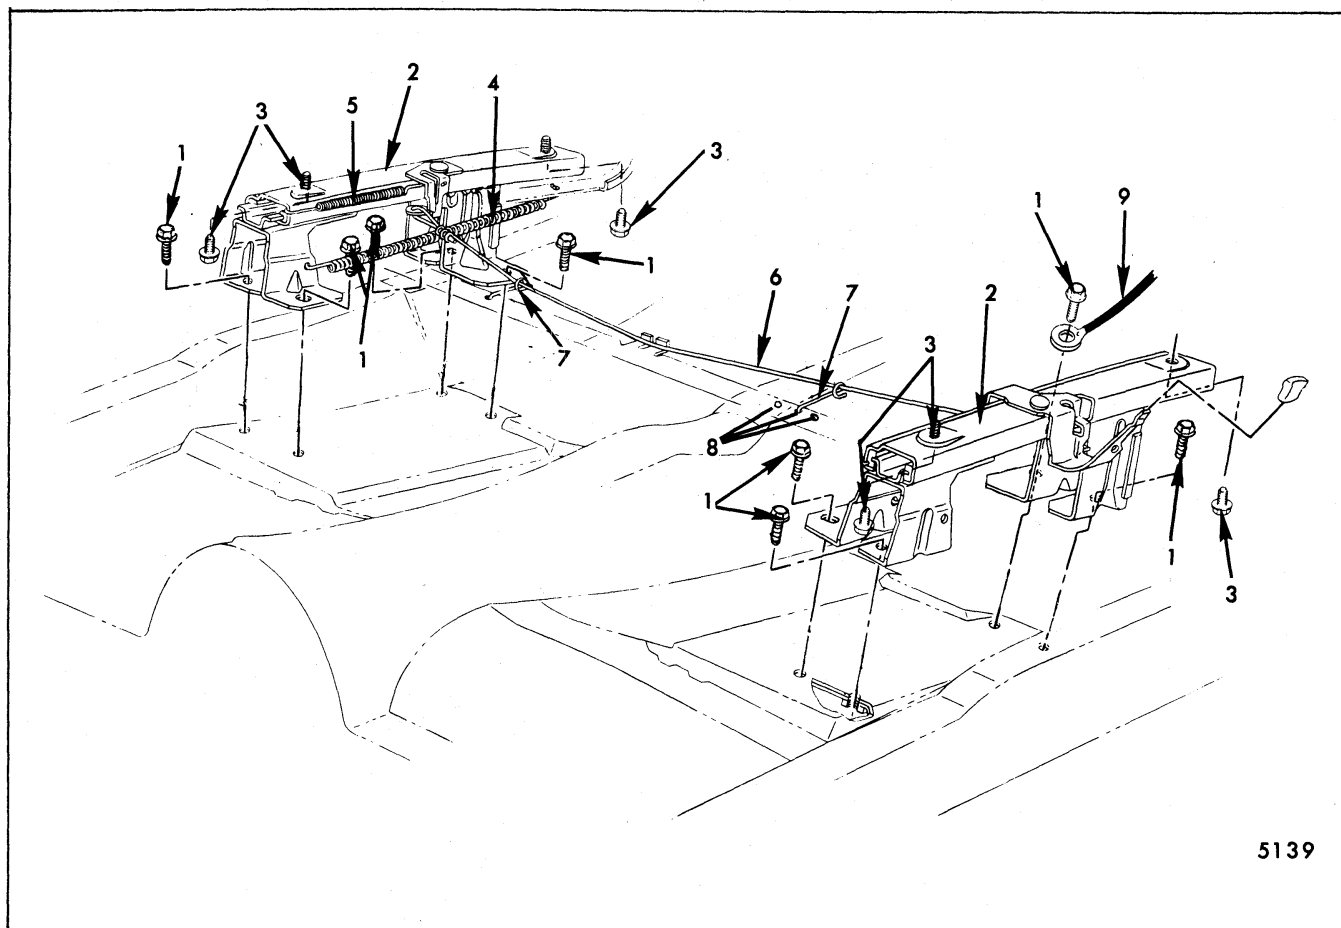

Fig. 9-9-Front Seat Adjusters - "B, C and E" Body Manually Operated Full Width Seats
2. Fig. 9-9-"B, C, E and X" Body Manually Operated Full Width Seat
2. Fig. 9-9-"B, C, E" and "X" Body Manually Operated Seat Adjusters